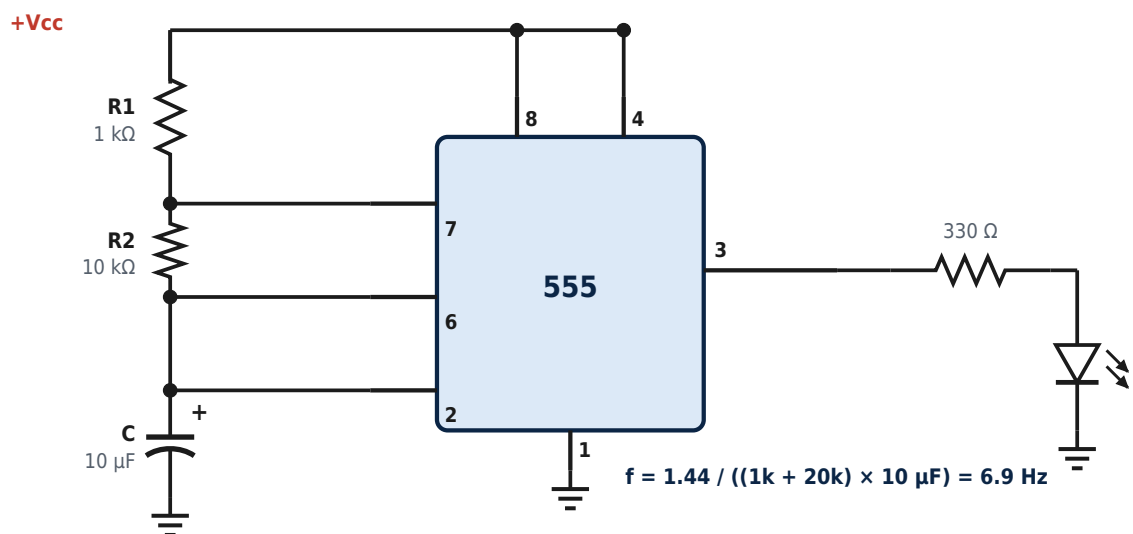

Figure 11.8 Astable 555: a blinker. (Pin 5 should also have 10 nF to ground; omitted for clarity.) The LED blinks about 7 times a second.
2. Wire as in Figure 11.8: pin 8 and pin 4 to +V; pin 1 to ground; R_1 ($1 \text{ k}\Omega$) from +V to pin 7; R_2 ($10 \text{ k}\Omega$) from pin 7 to pin 6; a link between pins 6 and 2; C ($10 \mu\text{F}$, stripe to ground) from pin 2 to ground; 10 nF from pin 5 to ground; output pin 3 $\rightarrow 330 \Omega \rightarrow \text{LED} \rightarrow \text{ground}$.